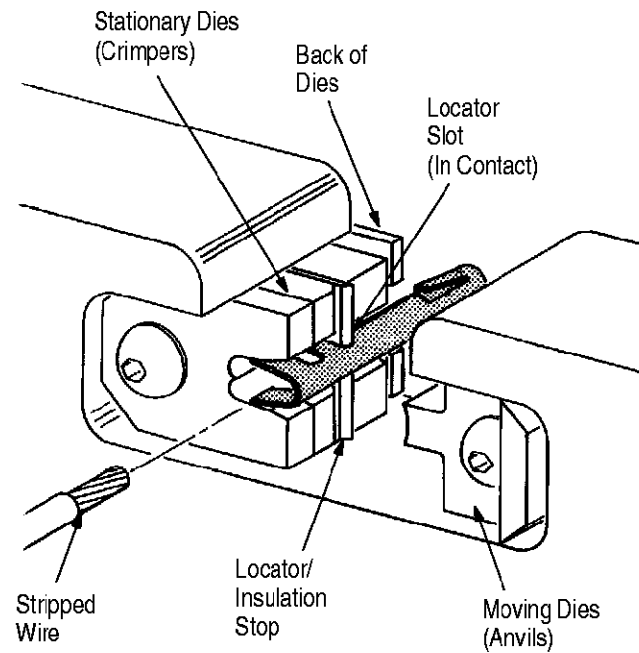

Figure 3
1. Position stationary die in stationary die holder and moving die in moving die holder. See Figure 3. Fasten die holding screws enough to hold dies in place but do NOT tighten fully.
2. Orient the tooling so the FRONT is facing you. See Figure 3.